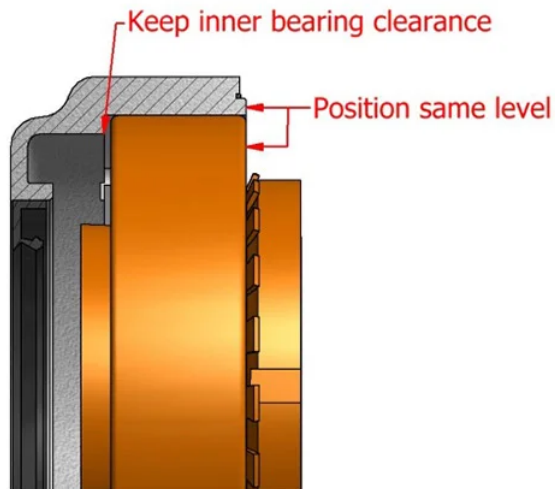

Fig. 1
6. *Method 1:* As shown in the diagram (fig. 1), position the outer edge of the bearing race exactly level with the outer edge of the bearing housing to maintain inner bearing clearance after tightening the bearing adapter sleeve.